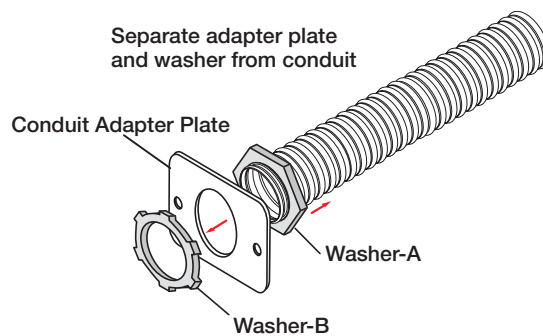

Figure 9. Removing the Existing Adapter Plate
6. Remove the washer at the end of the conduit (see figure 9, washer-B), and remove the conduit adapter plate that ships attached to the conduit.